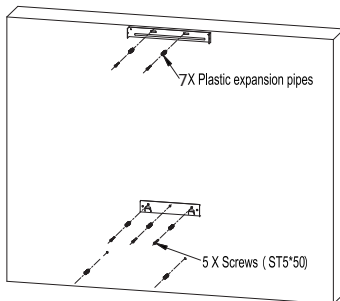

Fig.4
- Fix installation plate and extension chimney installation plate, See Fig.4.